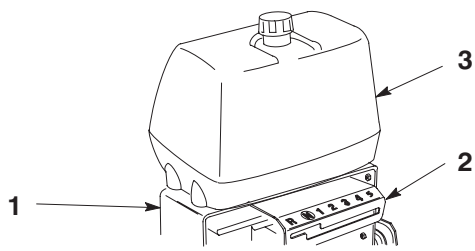

Figure 2
2. Slide the control panel over the shift lever and under the bottom of the rear frame (Fig. 2).
3. Align fuel tank with the top of the rear frame (Fig. 2).